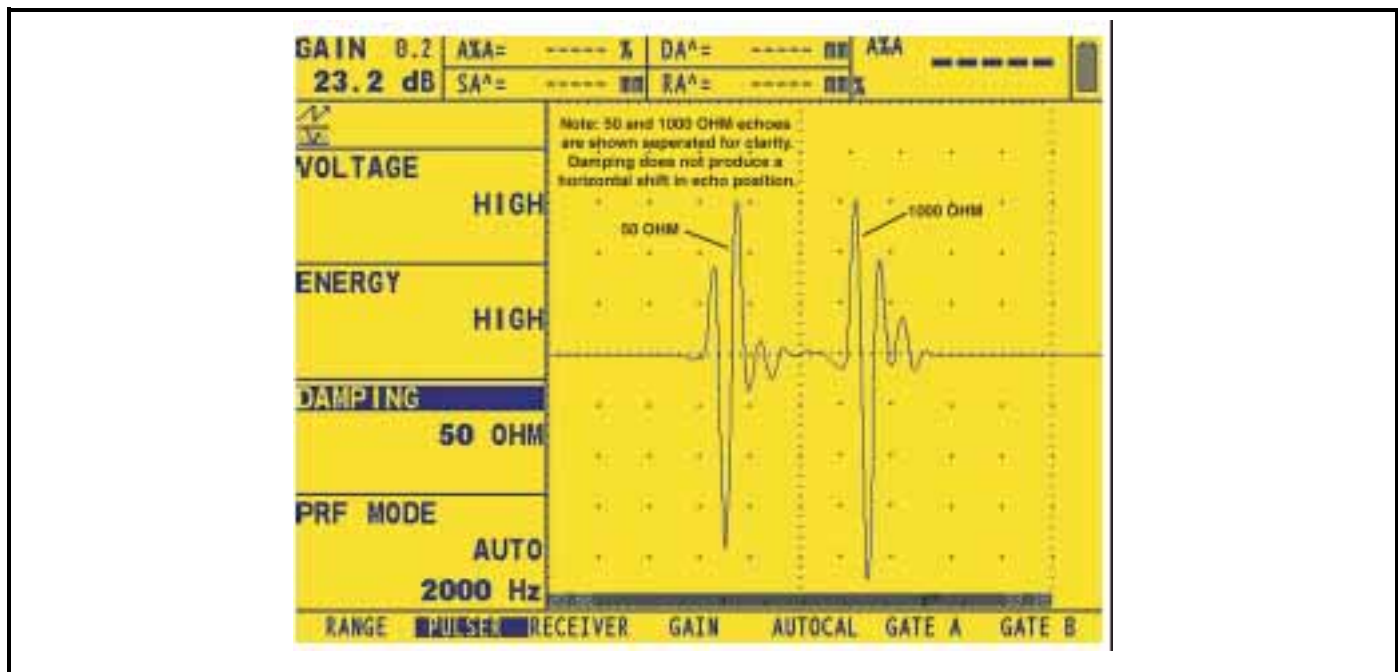

Figure 44: Typical Effects of Damping Changes
- **50 or 1000 Ω** (see Figure 44 below)
Rectification effects the orientation of the A-scan on the display screen. The A-scan represents the sound pulse (echo) that's returned from the material being tested to the instrument. The series of echoes looks like the *Radio Frequency (RF)* signal that's shown in Figure 44 on the previous page. Note that the RF signal has a negative component below the axis, and a positive component above the axis. In RF mode, the A-gate and B-gate can be positioned either above or below the axis, to be triggered by a positive-heading echo or a negative-heading echo.
3. Press  next to the function titled RECTIFY (Figure 44). You'll note that there are four options: